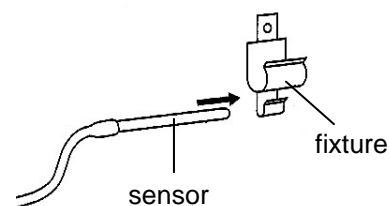

Fig. 4
7. Fix the recorder sensor to the sensor fixture as shown in Fig. 4.